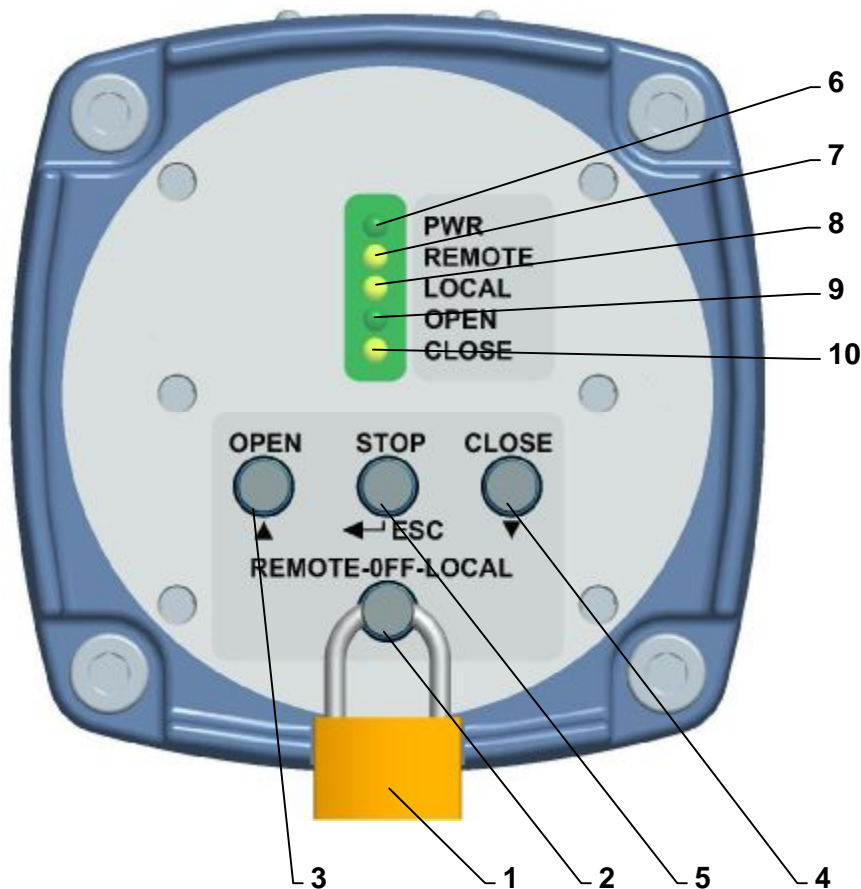

Fig. 15
4.7 Electric local control (Fig.15)